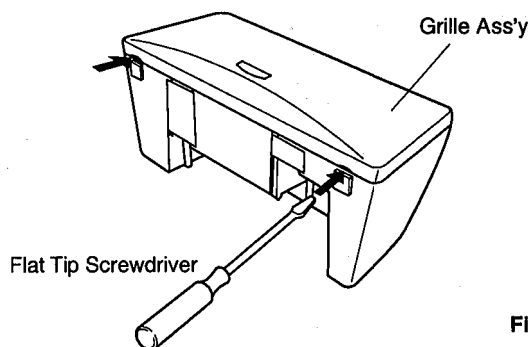

Fig. 5
- a. Using a flat tip screwdriver or the like from the underside, push up the Grille Ass'y as shown in Fig.5.